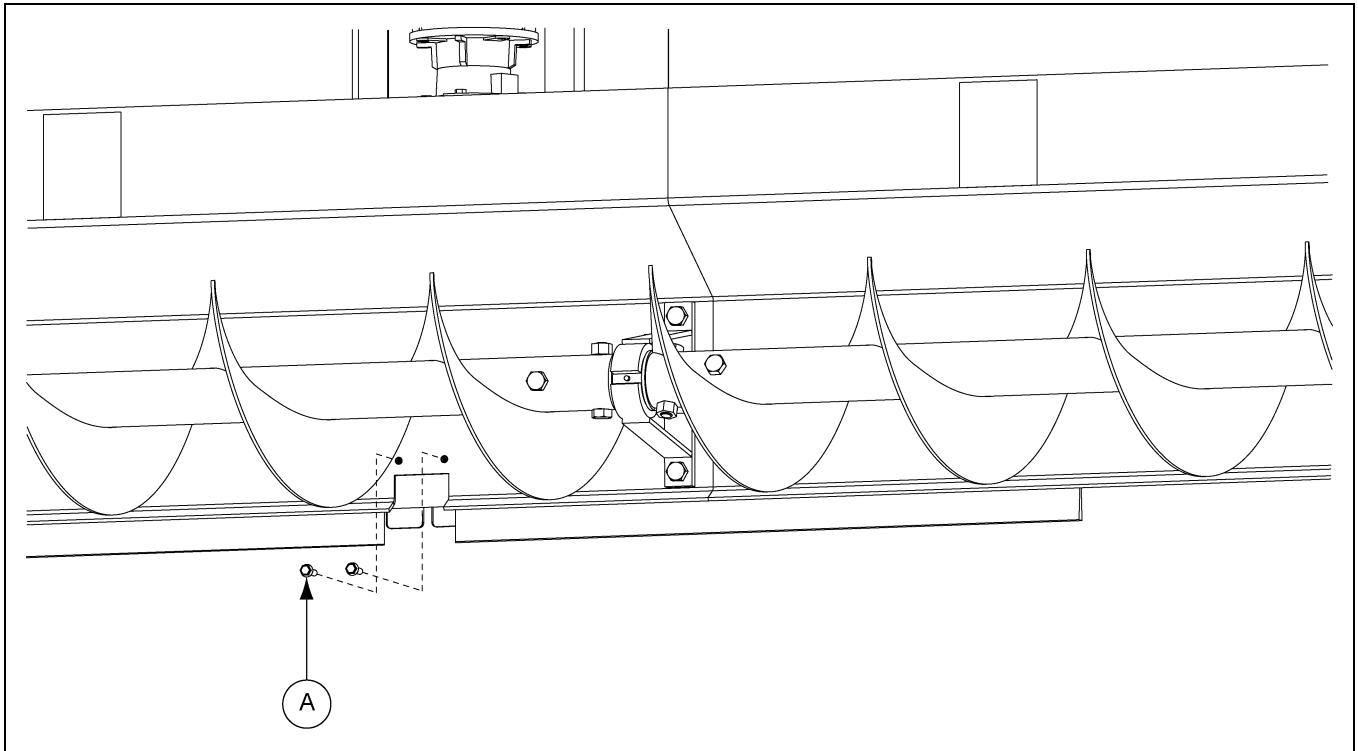

Figure 4X
1. Install flange bolts (A) through the front of the sweep shield. *(See Figure 4X.)*